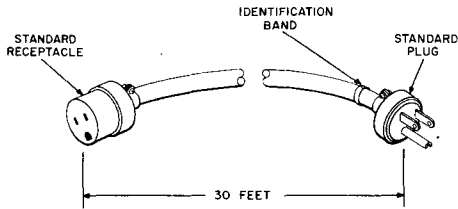

Fig. 9 — C or D Extension Cord
F. C and D Extension Cords (See Fig. 9.)